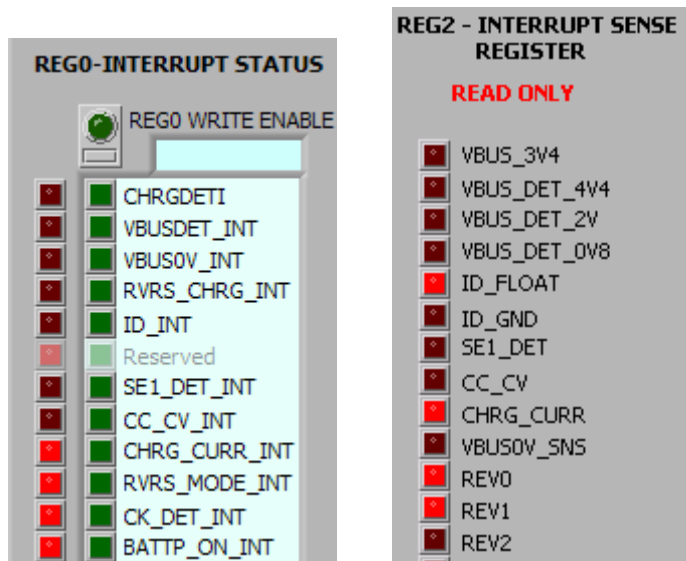

Figure 18. REG0 and REG2 after VCCIO Enable Is On and RESETB Button Is Off
3. ID_INT of REG0 (Interrupt Status Register) and ID_FLOAT of REG2 (Interrupt Sense Register) are activated, as shown in Figure 18.